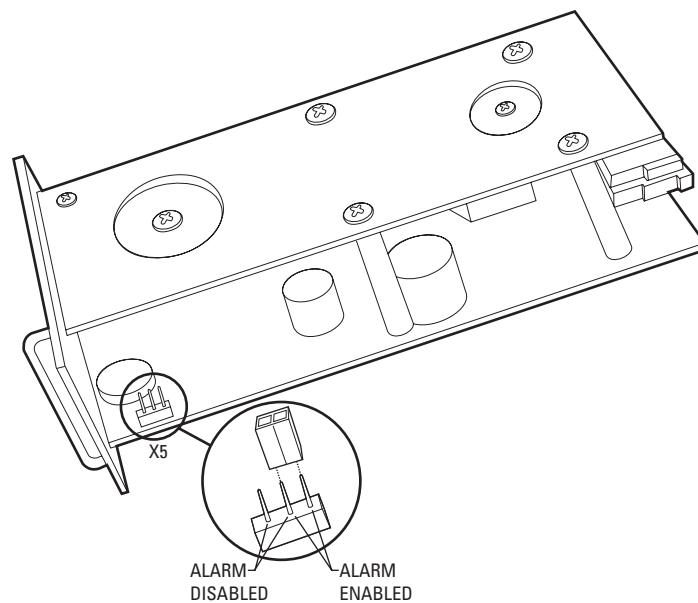

Figure 34. CM9760-MXB Power Supply Alarm Jumper Positions
The power supply provides an audible alarm that operates in conjunction with the Fault LEDs located on the front of the power supply. By default, the alarm is enabled. The X5 jumper on the power supply allows you to enable/disable the alarm (refer to Figure 34).
1. Place the power switch of the power supply in the Off (0) position.
4. Locate the X5 jumper on the power supply (refer to Figure 34).
5. Position the jumper to enable/disable the alarm as shown in Figure 34.